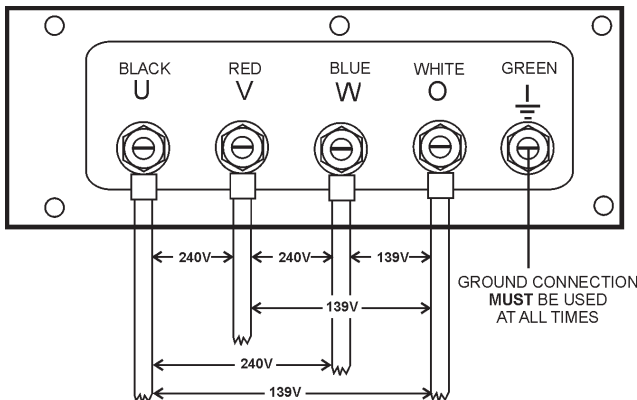

Figure 23. Output Terminal Lugs 240/139V Three Phase Connections
2. Connect the load wires to the **Output Terminal Lugs** as shown in Figure 23.